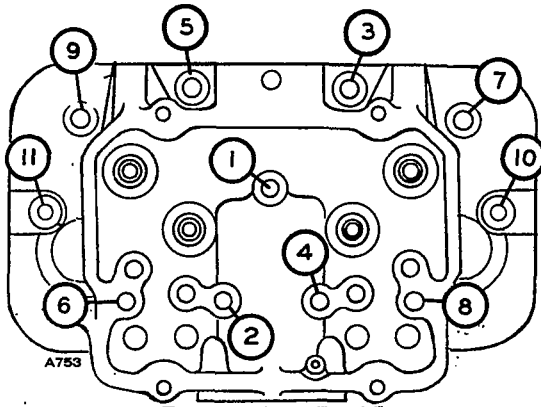

FIGURE 71. CYLINDER HEAD BOLT TORQUE SEQUENCE
7. Tighten the head bolts to 28 to 30 lbs. ft. following the sequence in Figure 71.
- c. Tighten cylinder head capscrews, following sequence in Figure 71.